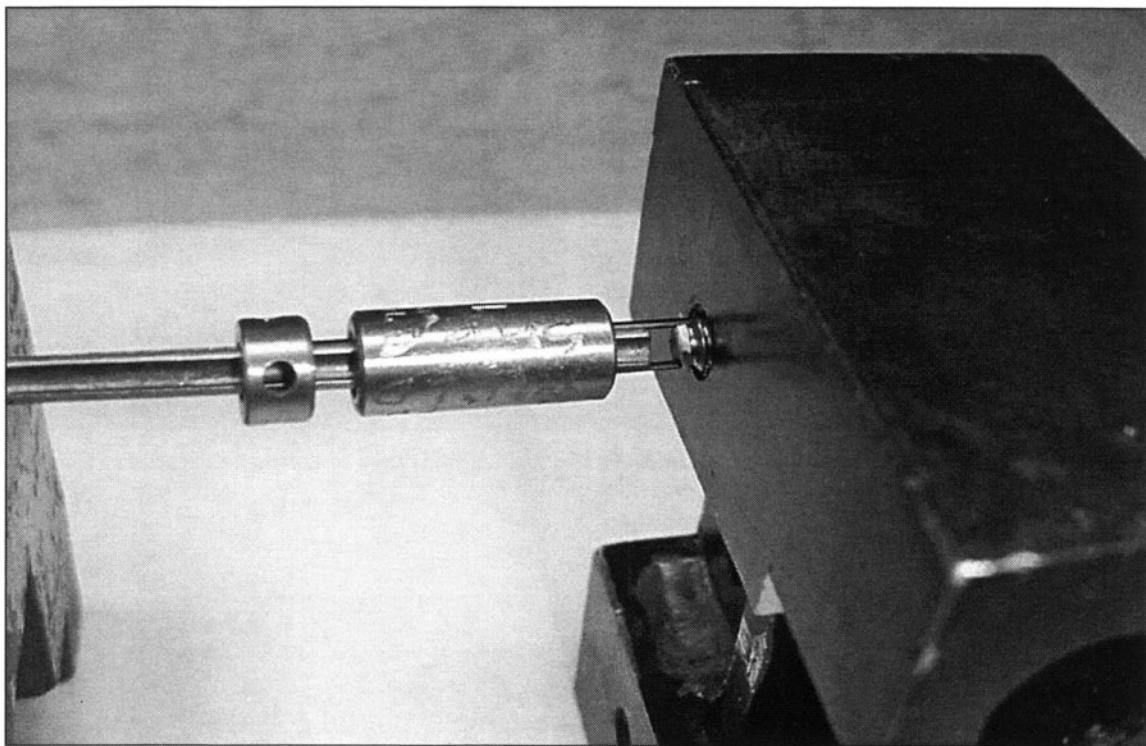

FIGURE 8-3 Tap removers seldom accomplish the task of removing a broken tap.
5. *Forget about using tap extractors to remove broken taps. (See Fig. 8-3)*